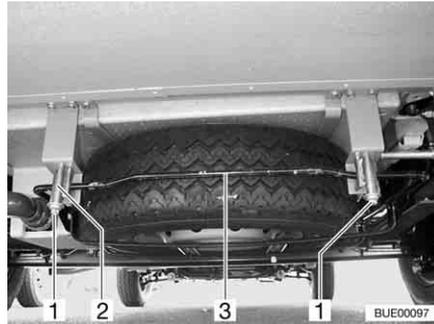

Fig. 275 Spare wheel support (basket)
- Loosen the nuts (Fig. 275,1) on the right and left rear hooks (Fig. 275,2) of the spare wheel support.
- Pull the bar (Fig. 275,3) slightly upwards. At the same time, pull down the hooks and unhook the bar.